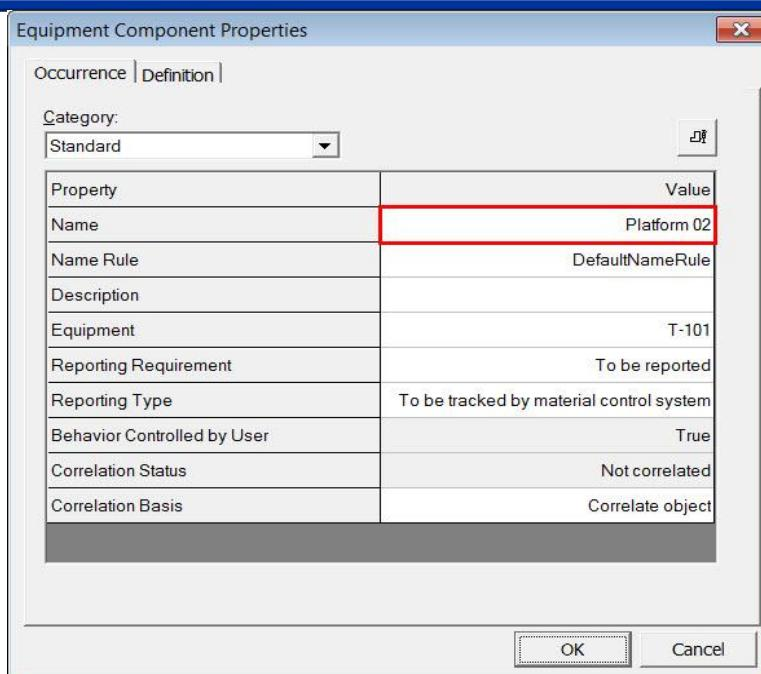

Figure 4. 26: Name Field
19. Switch to the Position and Orientation category of properties and key in the values shown in Figure 4. 27.